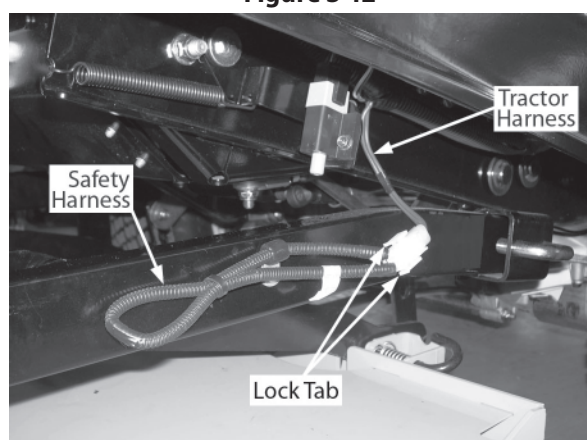

Figure 3-13
- Connect the safety interlock harness to the tractor harness. Refer to Figure 3-13.
- Connect the safety harness to the tractor harness. Refer to Figure 3-13.